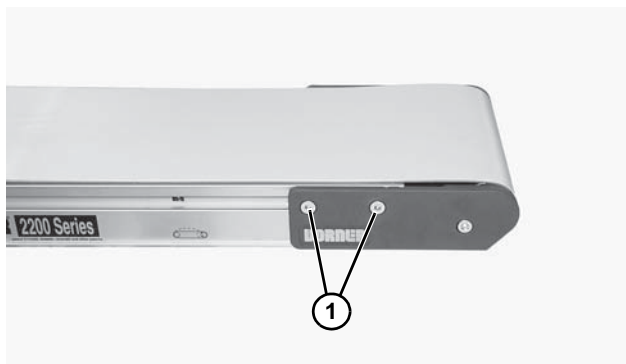

Figure 34
1. On one side of the conveyor, loosen two (2) head plate fastening screws (**Figure 34, item 1**) and remove.